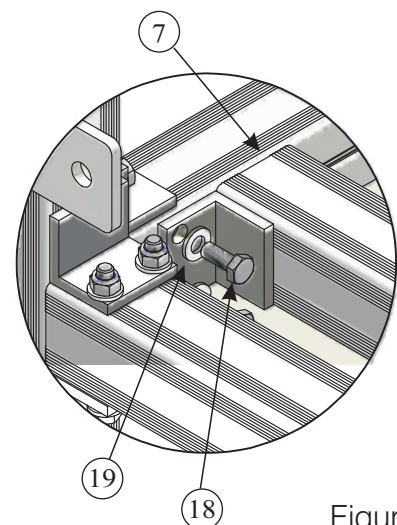

Figure 3.
2.) Attach the back support (7) between the sideframes (1&2) by attaching with 4 x BOL546 (18) and a skiffy washer (19) (Figure 3). Line up the angle brackets on the back support with the rivet nuts on the sideframe. Make sure that the bolts are only finger tight so that there is still some movement on the bracket.